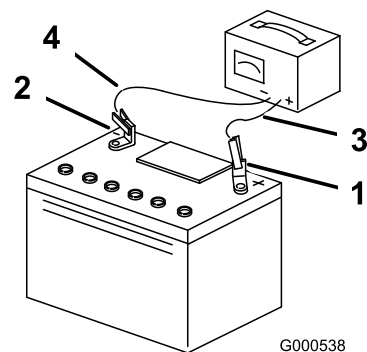

Figure 38
- When the battery is fully charged, unplug the charger from the electrical outlet, then disconnect the charger leads from the battery posts (Figure 38).